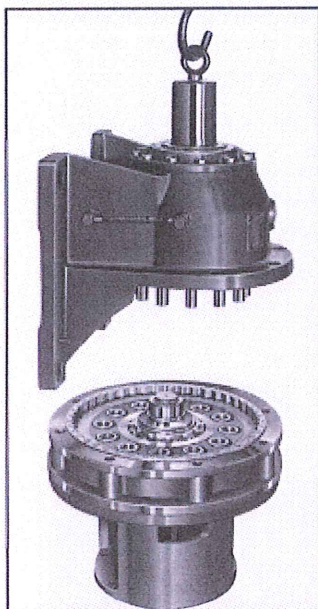

Fig. A-13
6. Take out the slow speed shaft rollers, item 1-06, page A-3 (Fig. A-13). Check the slow speed shaft pins (1-01) to see whether any rollers have adhered to them.
7. **Insert top disc in such a way that the mark is 180° opposed to the mark on the bottom disc (Fig. A-13).**
8. Insert slow speed shaft rollers (Fig. A-13).